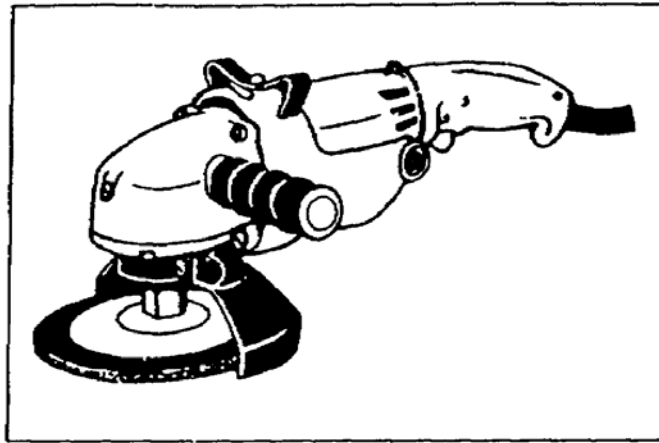

Figure 3-18. Portable power grinder
d. **Portable Power Grinders.** Use grinders to remove scale or encrustation from metal surfaces. The tool, as shown in Figure 3-18, page 3-16, is driven by an electric motor that uses 110-volt, 60-cycle alternating current. The electric motor in the grinder is geared and has a chuck. The features make it possible to attach different grit-sized abrasive wheels. The action of the grinder may be clockwise or counterclockwise. You must wear goggles when you are using a grinder, and your safety guard must be in place. You should use reinforced abrasive wheels and never exceed the operating speed indicated on the wheel blotter.